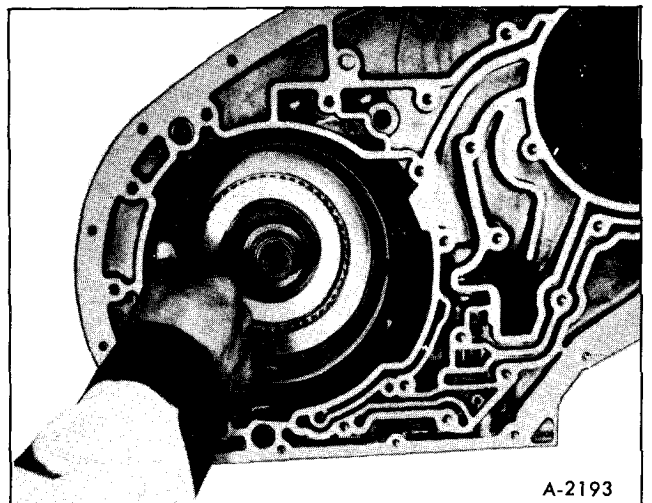

Figure 76—Front Band Installation
2. Install front band with band anchor hole over band anchor pin, and apply lug facing servo hole, Figure 76.